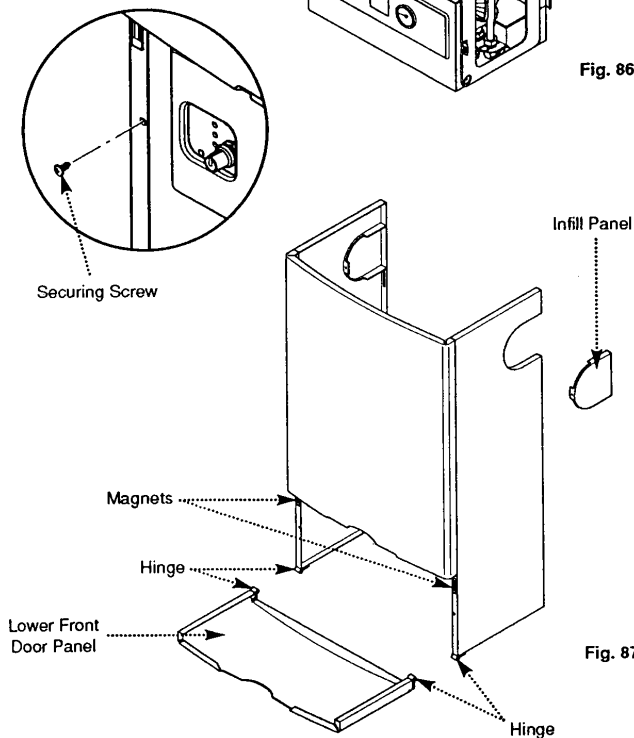

Fig. 87
2. If the appliance is flued to the left or to the right, remove the relevant infill panel from the case by removing the retaining clips and fixing screws (Fig. 87).
5. Replace the lower front door panel and hinge upwards, ensuring it is secured by the two magnets (Fig. 87 & 88).